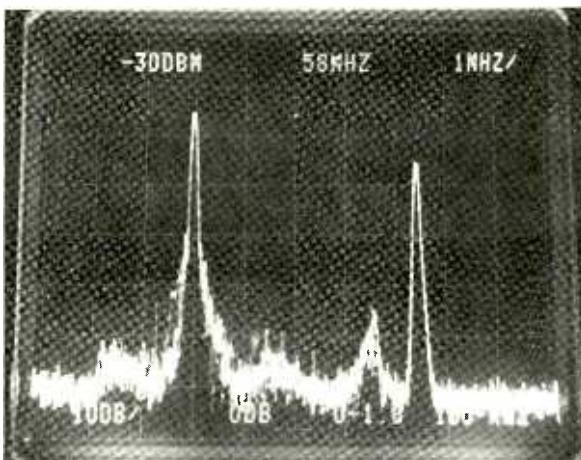

Fig. 5. Spectrum analysis shows output signal on channel 3 with video carrier on left and audio on right. The S/N of 50 dB is excellent.
**Evaluation.** Lab tests usually involve oscilloscope and voltmeter readings. But here you have r-f carriers in addition to baseband video and audio outputs, and that requires spectrum analyzers. Furthermore, the usual 50-ohm impedance analyzer input must be matched to the 75-ohm output of the discplayer, and that results in an addition of 5.72 dB. Nonetheless, absolute levels are not nearly as important in this analysis as relative levels, so a rounded 6 dB difference in scale reading for Fig. 5 really won't matter much. For instance, the video carrier reading of -45 dBm becomes -51 dBm after correction for the 75-ohm termination.